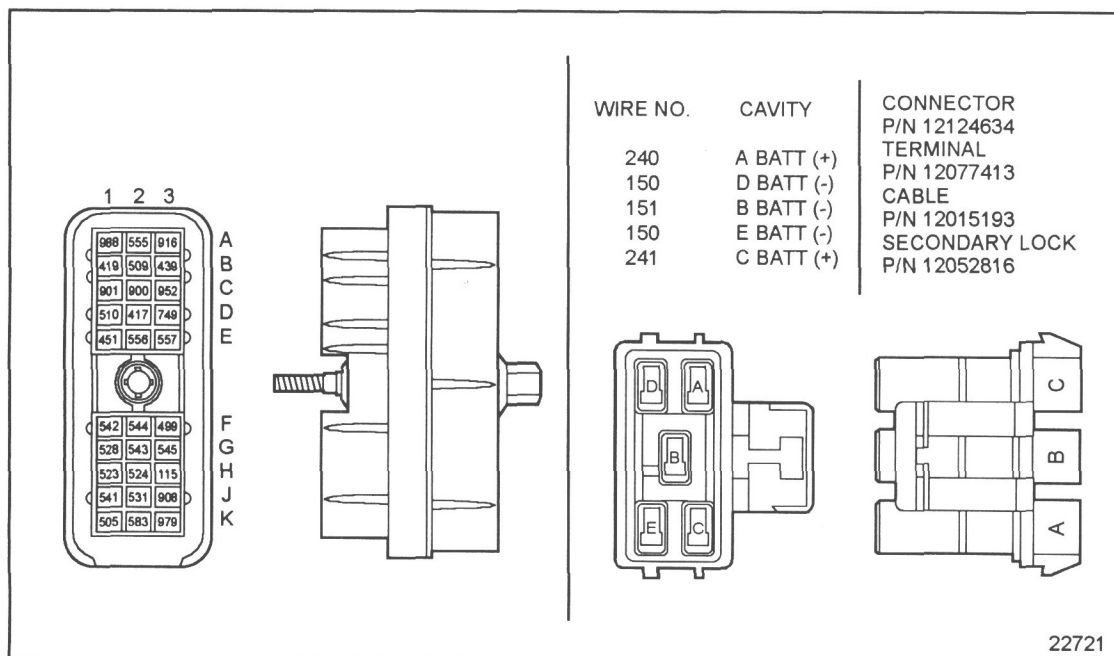

Figure 38-5 ECM Vehicle Interface Harness Connector
2. Disconnect the vehicle harness and 5-way power connectors at the ECM. See Figure 38-5.